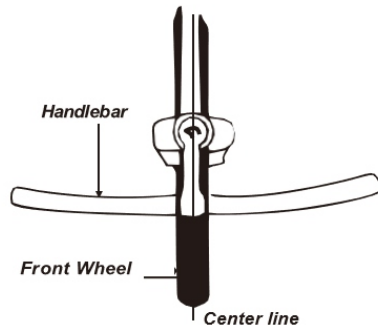

fig.10 Handlebar and Handlebar Stem Assembly
2. Align the handlebar stem with the front wheel(see fig.10). Tighten securely the expender bolt with an adjustable wrench.
6. Be sure that your handlebar and stem assemblies are properly tight before riding. The handlebar should not rotate in the stem. When you straddle and grip the front wheel between your knees, the handlebar should not be able to turn when you apply pressure horizontally. Refer to (fig. 10)